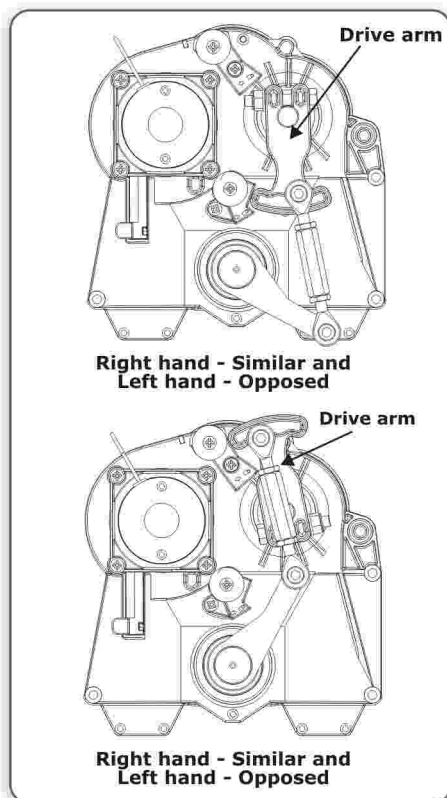

FIGURE 43. DRIVE ARM POSITION (SPIKES "UP")
1. Using a 12V battery, drive the motor so that the drive arm rests up on the endstop when the spikes are in the "UP" position as shown in Figure 43.